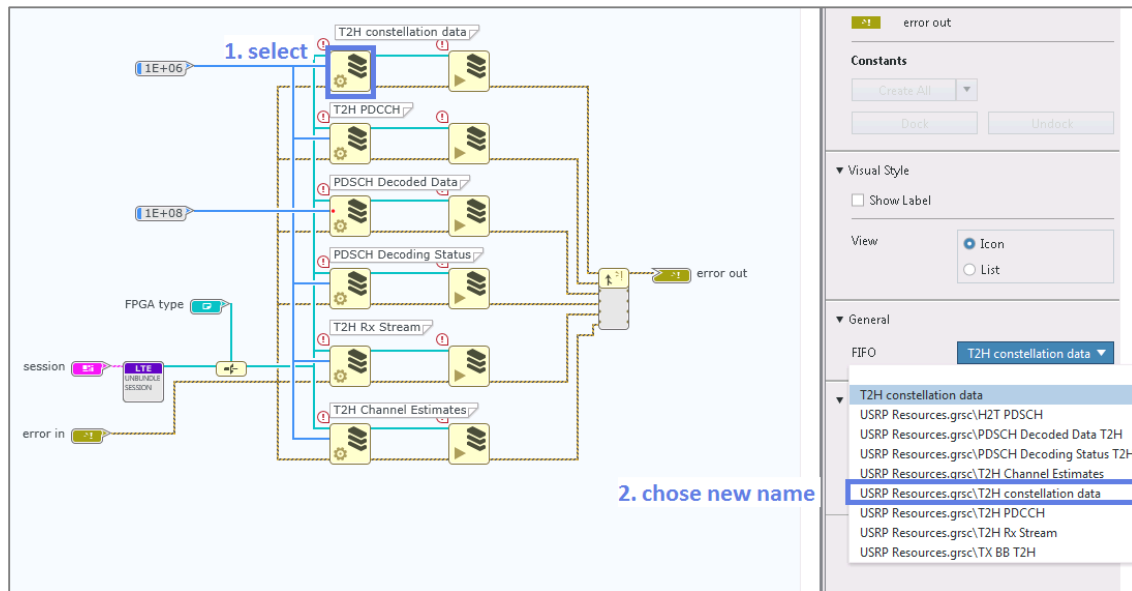

Figure 42 – “LTE DL RX FIFO Initialization.gvi” - Adopt FIFO name
7. Select the first FIFO node and adopt the FIFO name as shown in Figure 42.